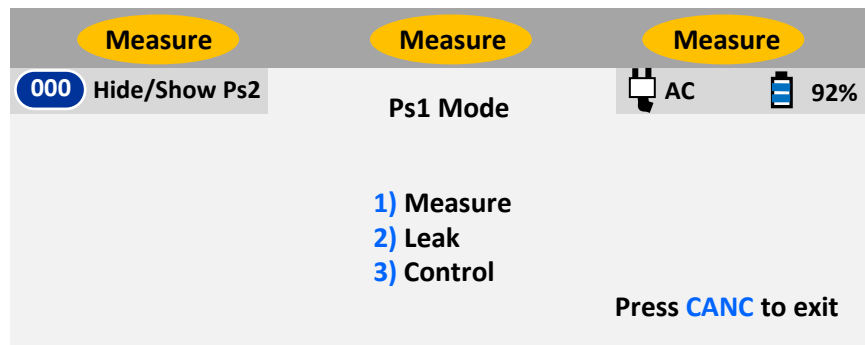

Figure 3.26 : Select Ps1 Mode
The Ps1 mode can be changed when the key# symbol (8) is displayed to the right of the Ps1 mode field. Press key '8' on the keypad and the Lower section of the display will appear as shown in Figure 3.26 below.